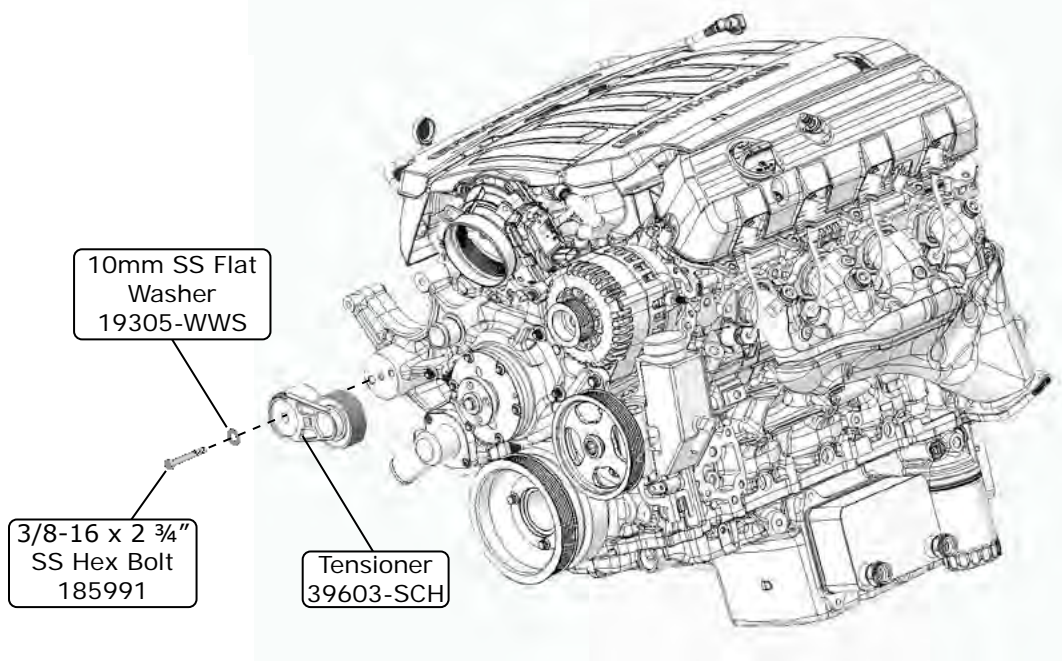

Figure 1
- Align tensioner pins with holes in casting as shown in Figure 1, below. Secure tensioner with 10mm washer and 3/8-16 x 2 3/4" SS hex bolt torqued to 21 +/- 2 lb-ft (See Figure 1, below).
1. Install the A/C compressor as shown in Figure 1, below.